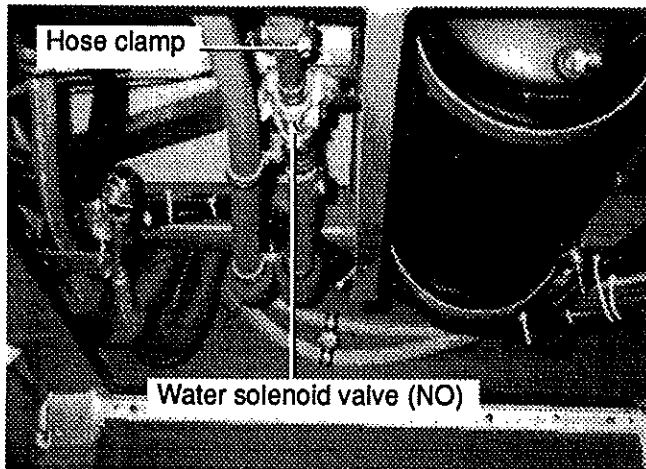

FIG. 21
2. Locate the normally-open water solenoid valve on the ceiling of the spare wheel compartment (see fig. 21), disconnect its wiring connector, then connect a 24 volt external power source, using jumper cables, to close valve.